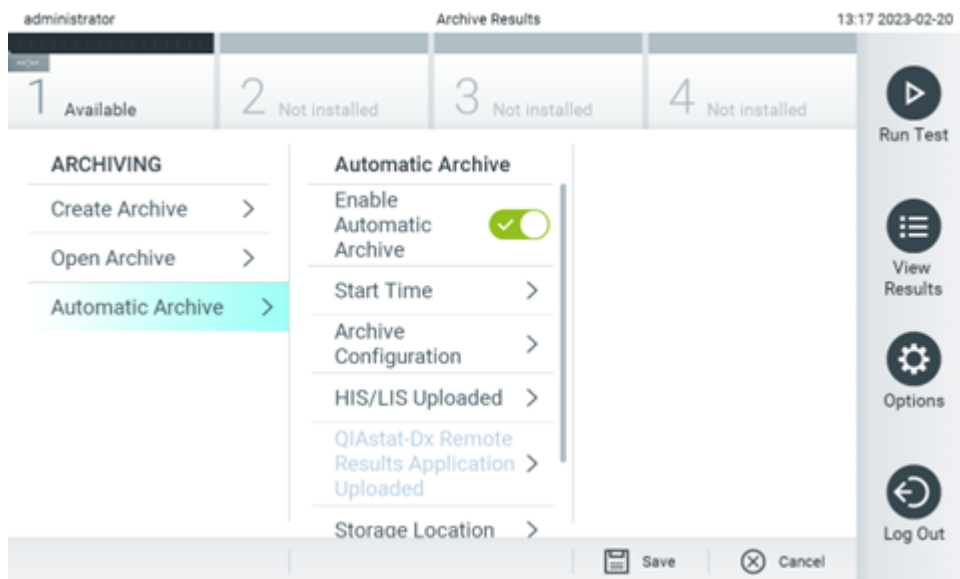

Figure 84. Automatic archive options.
2. Press **Automatic Archive** and enable the feature (Figure 84).